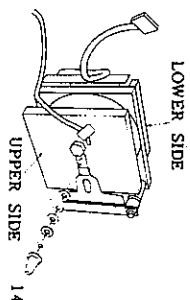

Fig. 15
Lay down (14) MECHANICAL ASSY as shown in Fig. 15 slowly and dismantle it. Place each part removed in the order of assembly.